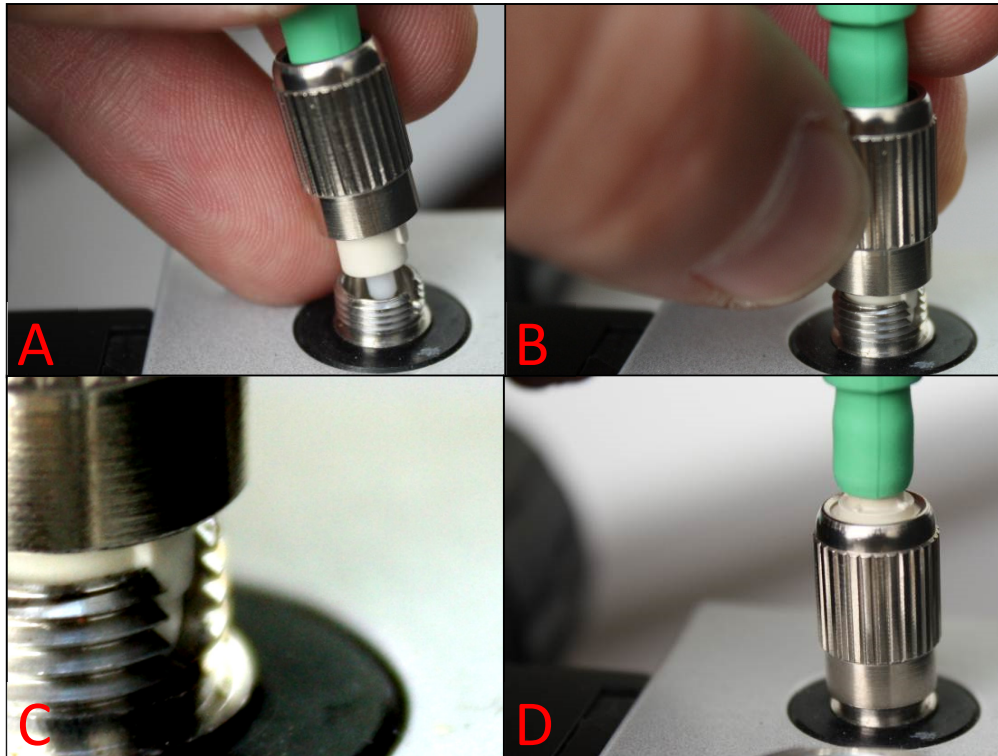

Figure 9 **Fiber Connection to the Imaging Scanner**
- Remove the dust caps from the fiber end and from the FC/APC fiber connection at the base unit. The fiber should be installed in a similar fashion as at the scanner. Follow the steps indicated in Figure 9 and make sure not to touch the fiber tip.